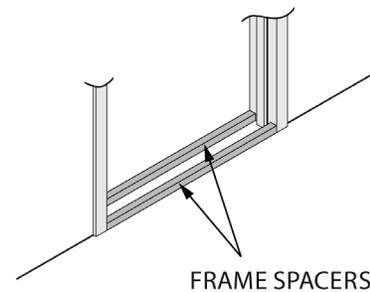

Figure 16: Remove Temporary Spreaders
2. Remove Temporary Spreaders (Figure 16)